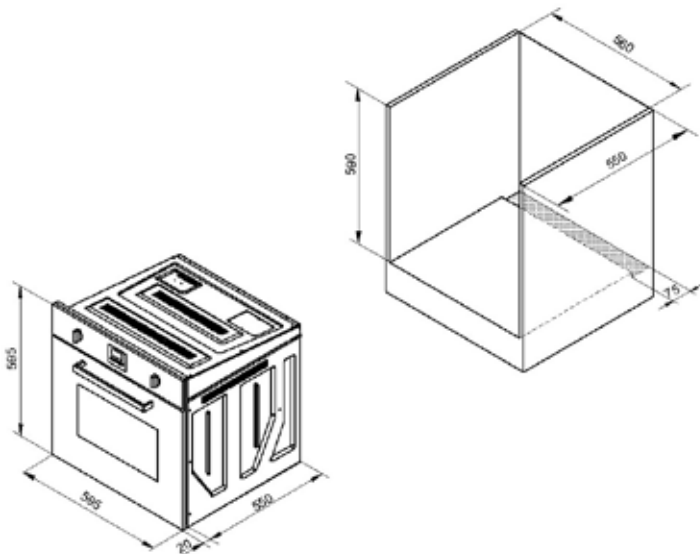
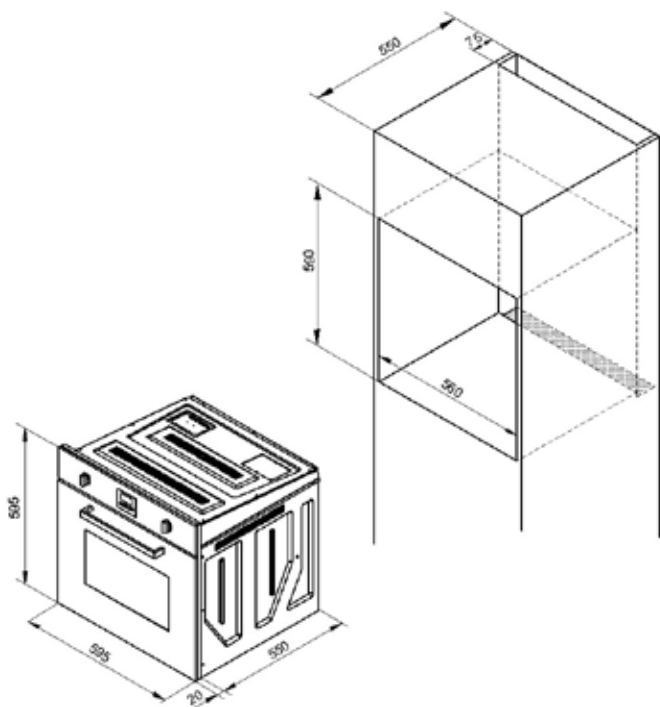

Figure 1
Figure 2
- ❖ The oven has been designed to be fitted into a kitchen unit. It can be fitted either under a worktop or in a taller cupboard unit at eye level. Cut out an opening in the kitchen unit as shown in. (**See Figure 1 and Figure 2**)
- ❖ For the most efficient air circulation, the oven should be fitted according to the dimensions shown in **(See Figure 1 and Figure 2)**